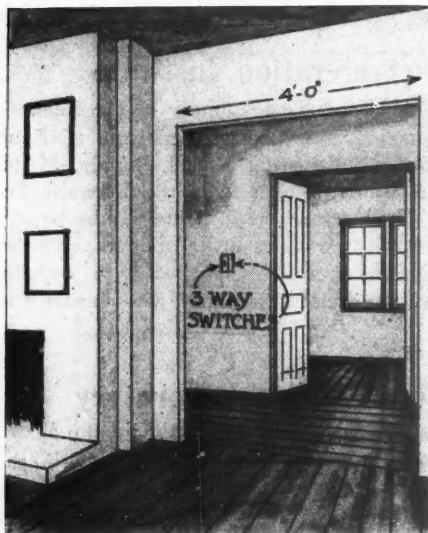

Fig. 1.
**ANSWER:** Perhaps the questioner is a good deal like the editor of this department. He can remember wide-board floors, and soft-wood floors. He wishes he could see more of them. He went to the trouble of using them in the upper halls and bedrooms as shown in Figure 1. He used paint and hoped for nice carpets such as he used to see. So far he has not got the carpets. But the floors are all right. They look well, they have stood a tremendous amount of racket, they feel good to walk on, and have not developed any creaks. But they need paint occasionally.